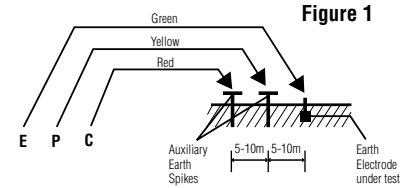

Figure 1
- (1) Connect the green, yellow and red test leads to instrument terminals E, P and C with auxiliary earth spikes P1, C1 placed into the soil "IN A STRAIGHT LINE". (Fig. 1)
- (2) Rotate the function switch to a suitable range then press the pushbutton to test and take the reading.
- \* **Follow the proper connection as shown in Fig. 1. The LED (red) indicator will light. This indicates that a correct current flow is taking place.**